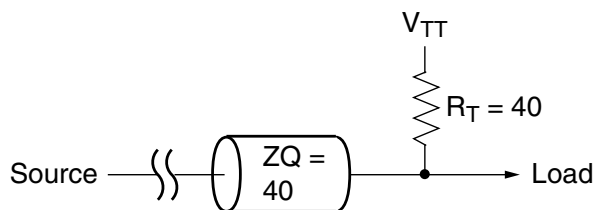
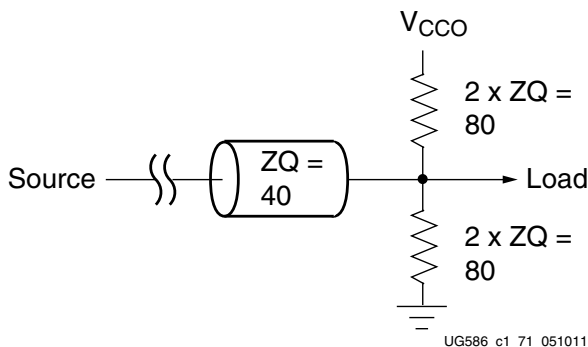
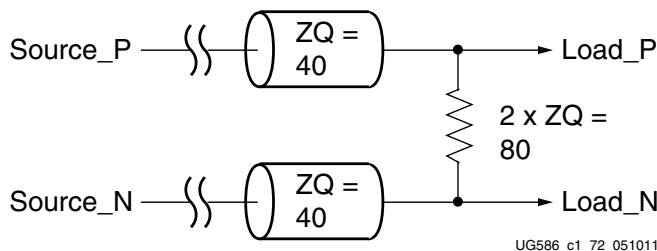

Figure 1-88: 40Ω Termination to  $V_{TT}$
Figure 1-89: 80Ω Split Termination to VCCO and GND
Figure 1-90: 80Ω Differential Termination
- Single ended 40Ω traces and termination are required for operation at 1,333 Mb/s and higher. 50Ω is acceptable below 1,333 Mb/s. Figure 1-88 and Figure 1-89 are for 1,333 Mb/s and higher.
- Differential 80Ω traces and termination are required for operation at 1,333 Mb/s and higher. 100Ω is acceptable below 1,333 Mb/s. Figure 1-90 is for 1,333 Mb/s and higher.
- Address and control signals (A, BA, RAS\_N, CAS\_N, WE\_N, CS\_N, CKE, ODT) are to be terminated with the onboard DIMM termination. If DIMM termination does not exist or a component is being used, a 40Ω pull-up to  $V_{TT}$  at the far end of the line should be used (Figure 1-88). Except for the CK/CK\_N which requires a differential termination as shown in Figure 1-90.
- A split 80Ω termination to  $V_{CCO}$  and a 80Ω termination to GND can be used (Figure 1-89), but takes more power. For bidirectional signals, the termination is needed at both ends of the signal. ODT should be used on the memory side. For best performance in HP banks, DCI should be used. For best performance in HR banks, IN\_TERM (internal termination) should be used.
- Differential signals should be terminated with the memory device internal termination or an 80Ω differential termination at the load (Figure 1-90). For bidirectional signals, termination is needed at both ends of the signal. ODT should be used on the memory side. For best performance in HP banks, DCI should be used. For best performance in HR banks, IN\_TERM (internal termination) should be used.